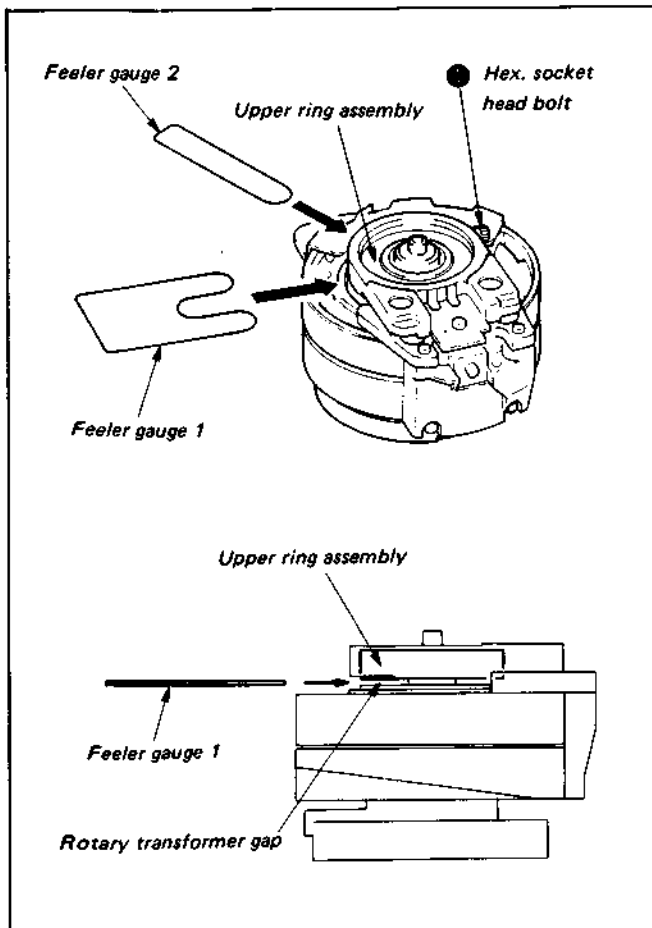

Fig. 3-7 Adjusting AFM rotary transformer gap
- 9) Check the AFM rotary transformer gap with the feeler gauges (See Fig. 3-7). Feeler 1 must go in and feeler 2 must not go in. If the gap is incorrect, readjust the gap. (Refer to Paragraph 3-2-3).
### 3-2-3. Adjusting AFM Rotary Transformer Gap (See Fig. 3-7)